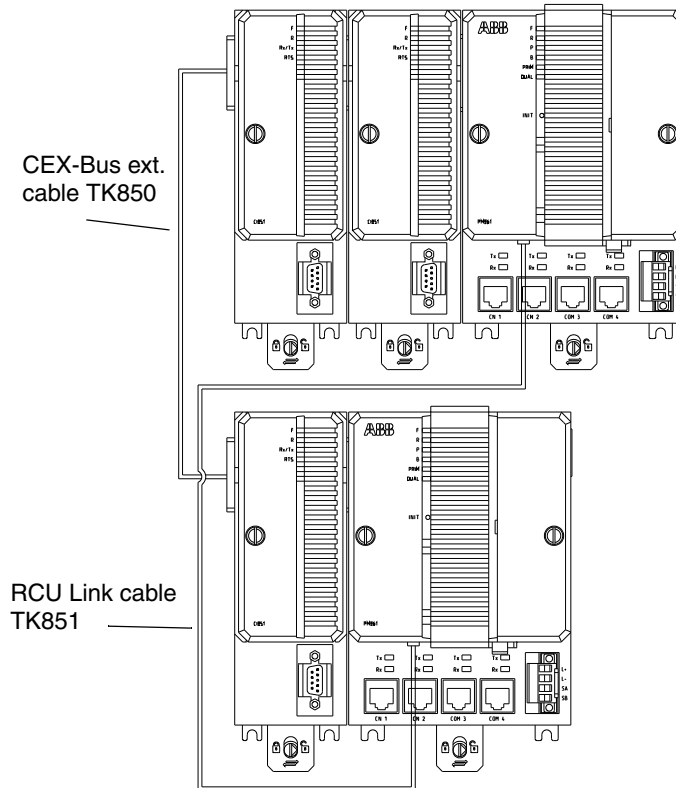

Figure 29. Connection of CPU redundancy
4. If BC810 is used, connect the TK851 cable to the two BC810 (Figure 31 on page 106). If BC820 is used, connect the TK857 cable to the two BC820 (Figure 37 on page 114). If BC810/BC820s are not used, mount the CEX-Bus extension cable TK850 to the units at farthest away from the processor units or, if no units are mounted, directly to the CEX-Bus on the processor unit. The CEX-Bus extension cable must be connected to both CPUs whether or not there are any other CEX-Bus units (Figure 29 on page 99).
4. If BC810 are used, connect the TK851 cable to the two BC810. If BC810 are not used, mount the CEX-Bus extension cable TK850 to the units at farthest away from the processor units or, if no units are mounted, directly to the CEX-Bus on the processor unit. The CEX-Bus extension cable must be connected to both CPUs whether or not there are any other CEX-Bus units (Figure 29 on page 99).